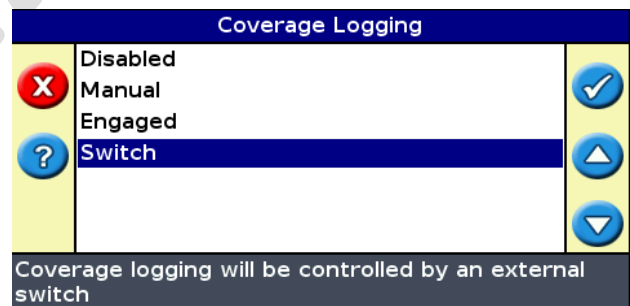

Figure 5.6
- To configure the coverage switch then choose '**Advanced Mode / System / Guidance / Coverage logging, select the Switch option**'. This is shown in figure 5.6. The switch can either be wired Active when the switch is Open (**Active Low**) or active when the switch is Closed, (**Active High**).